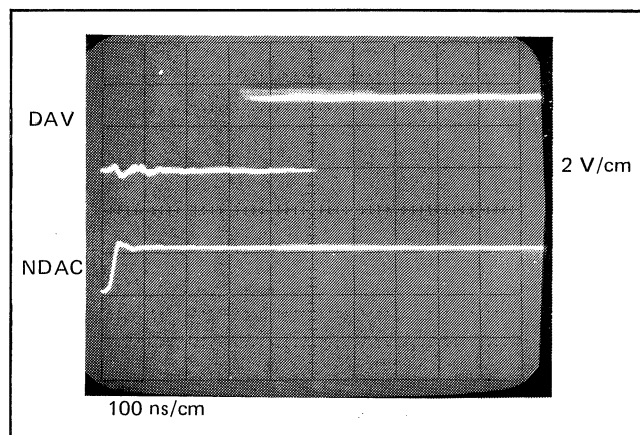

Figure 4-2. Talker Response to NDAC.
- c. The Oscilloscope display should be similar to that shown in Figure 4-2. The time between the positive going edge of the NDAC signal and the positive going edge of the DAV signal must be less than 700 nanoseconds.